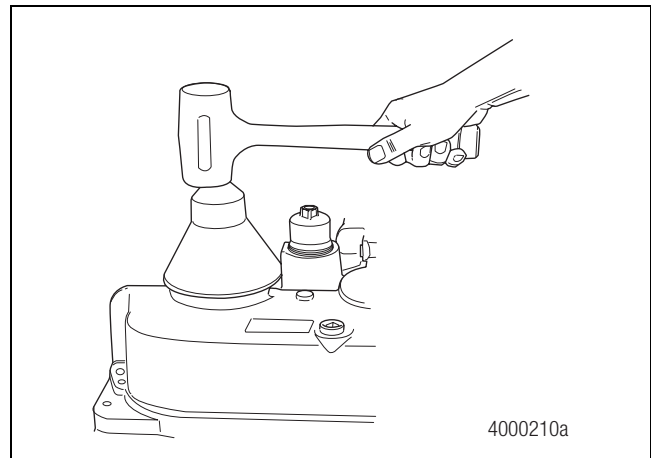

Figure 6.17
6. Install the front output shaft oil seal using oil seal driver R4422402, Meritor Kit 4454. Drive the seal until it is fully seated. Figure 6.17.